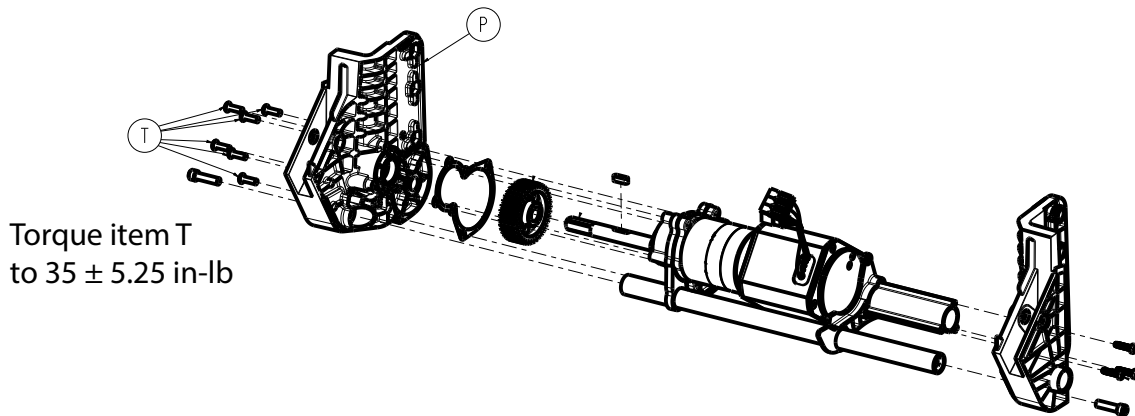

Figure 16 –
8. Using an impact driver and a 6" T25 Torx driver, remove the three button head cap screws (T) that secure the drive motor to the patient right upright assembly (P) (Figure 16). Discard the screws.